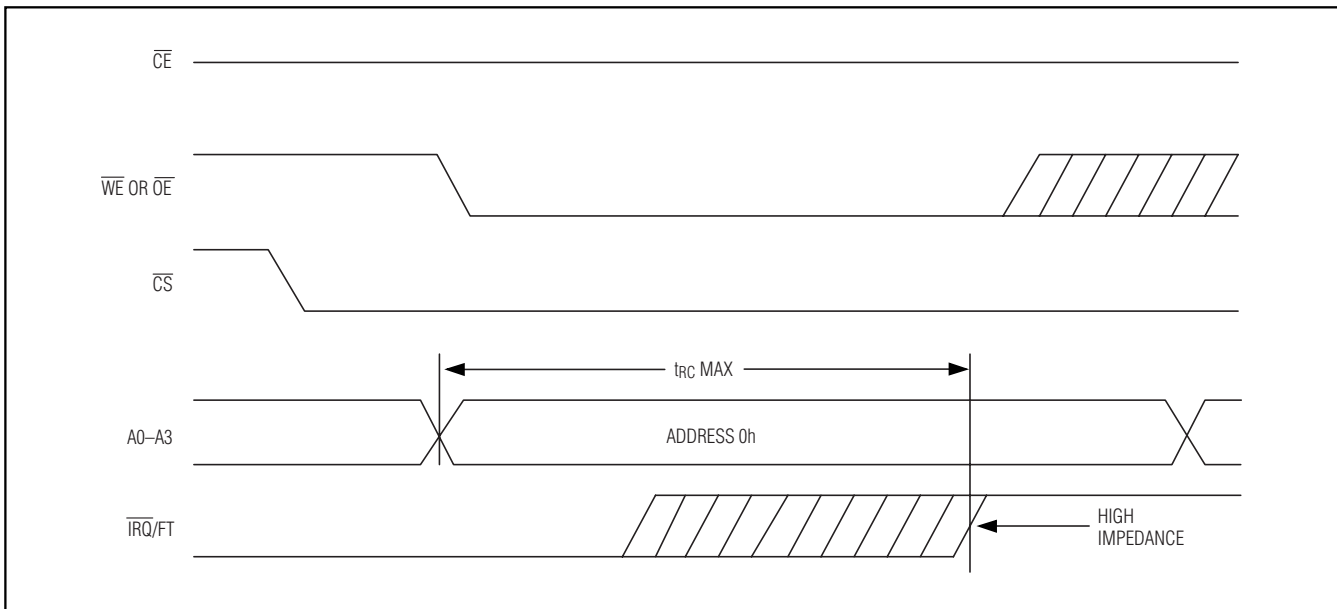
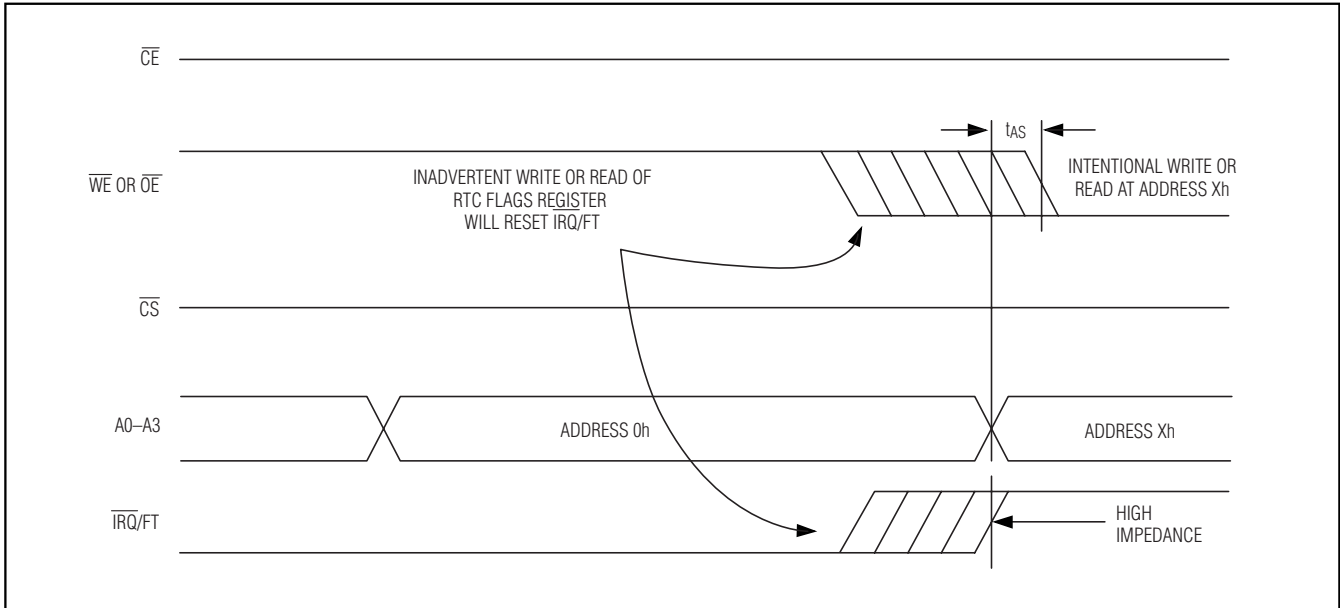

Figure 1. Clearing Active IRQ Waveforms
Figure 2. Prevent Accidental Clearing of IRQ Waveforms
When the RTC register values match alarm register settings, the alarm flag (AF) is set to a 1. If AE is also a 1, the alarm condition activates the  $\overline{\text{IRQ/FT}}$  output. When  $\overline{\text{CS}}$  is active, the  $\overline{\text{IRQ/FT}}$  signal can be cleared by holding the FLAGS register address stable for  $t_{\text{RC}}$  and forcing either  $\overline{\text{OE}}$  or  $\overline{\text{WE}}$  active (see Figure 1). The flag does not change state until the end of the read/write cycle and after the  $\overline{\text{IRQ/FT}}$  signal has deasserted. To avoid inadvertently clearing the  $\overline{\text{IRQ/FT}}$  signal while preparing for subsequent write/read cycles at other register addresses, assure that  $t_{\text{AW}}$  is met for that subsequent address (see Figure 2).